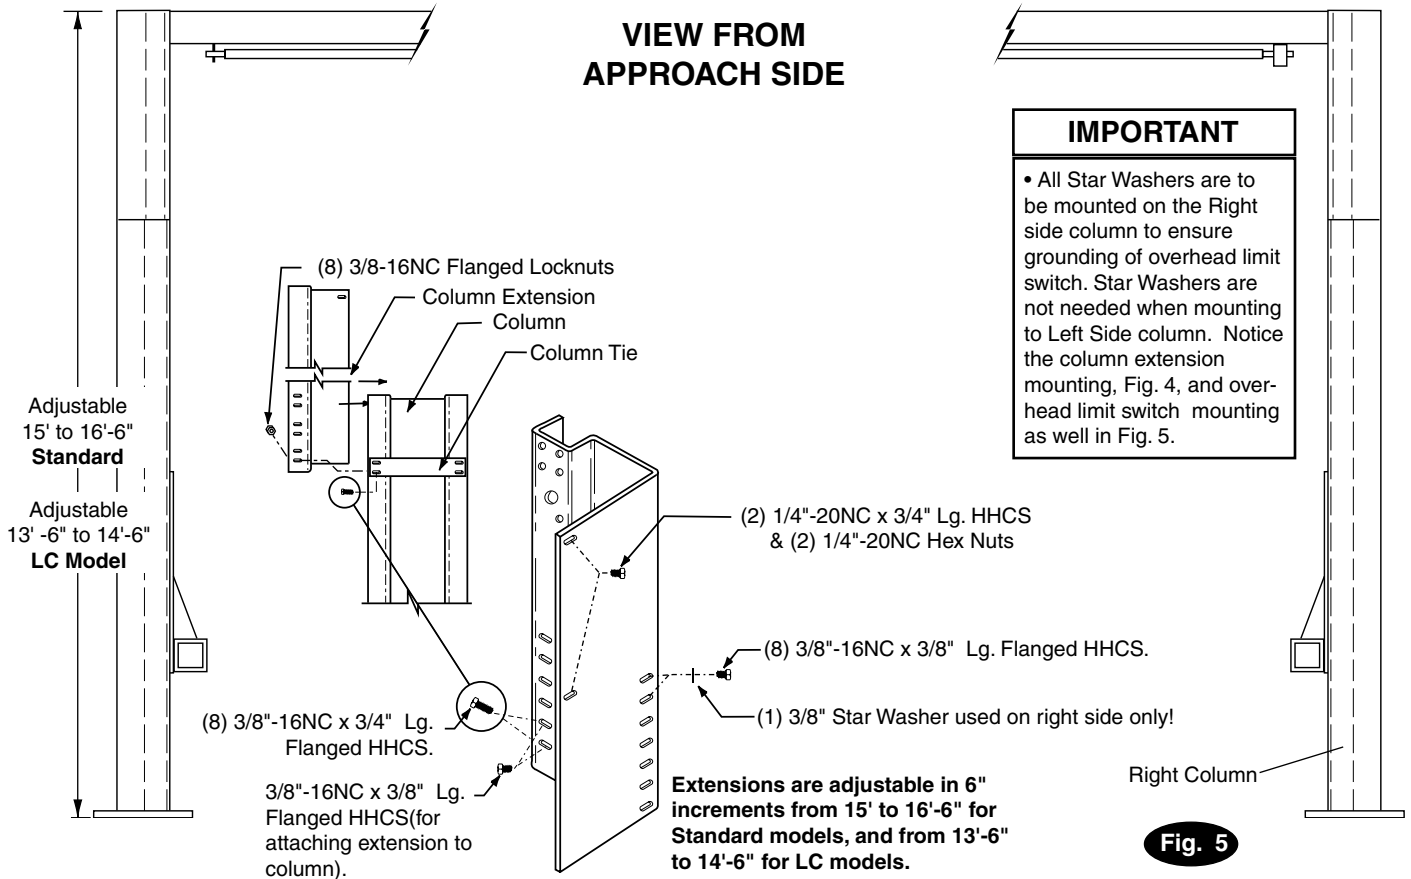

Fig. 5
5. Install Rubber Grommets in extensions as shown, Fig. 6. Install column extensions to columns using (16) 3/8"-16NC x 3/8" lg. Flanged HHCS, Fig. 5, and Column Ties using (8) 3/8"-16NC x 1" Flanged HHCS, Fig. 5. Adjust column extensions plumb as required.